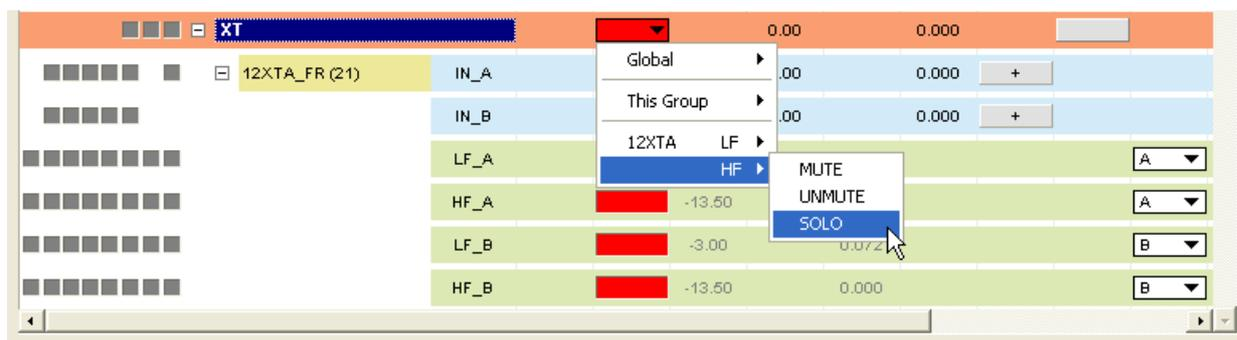
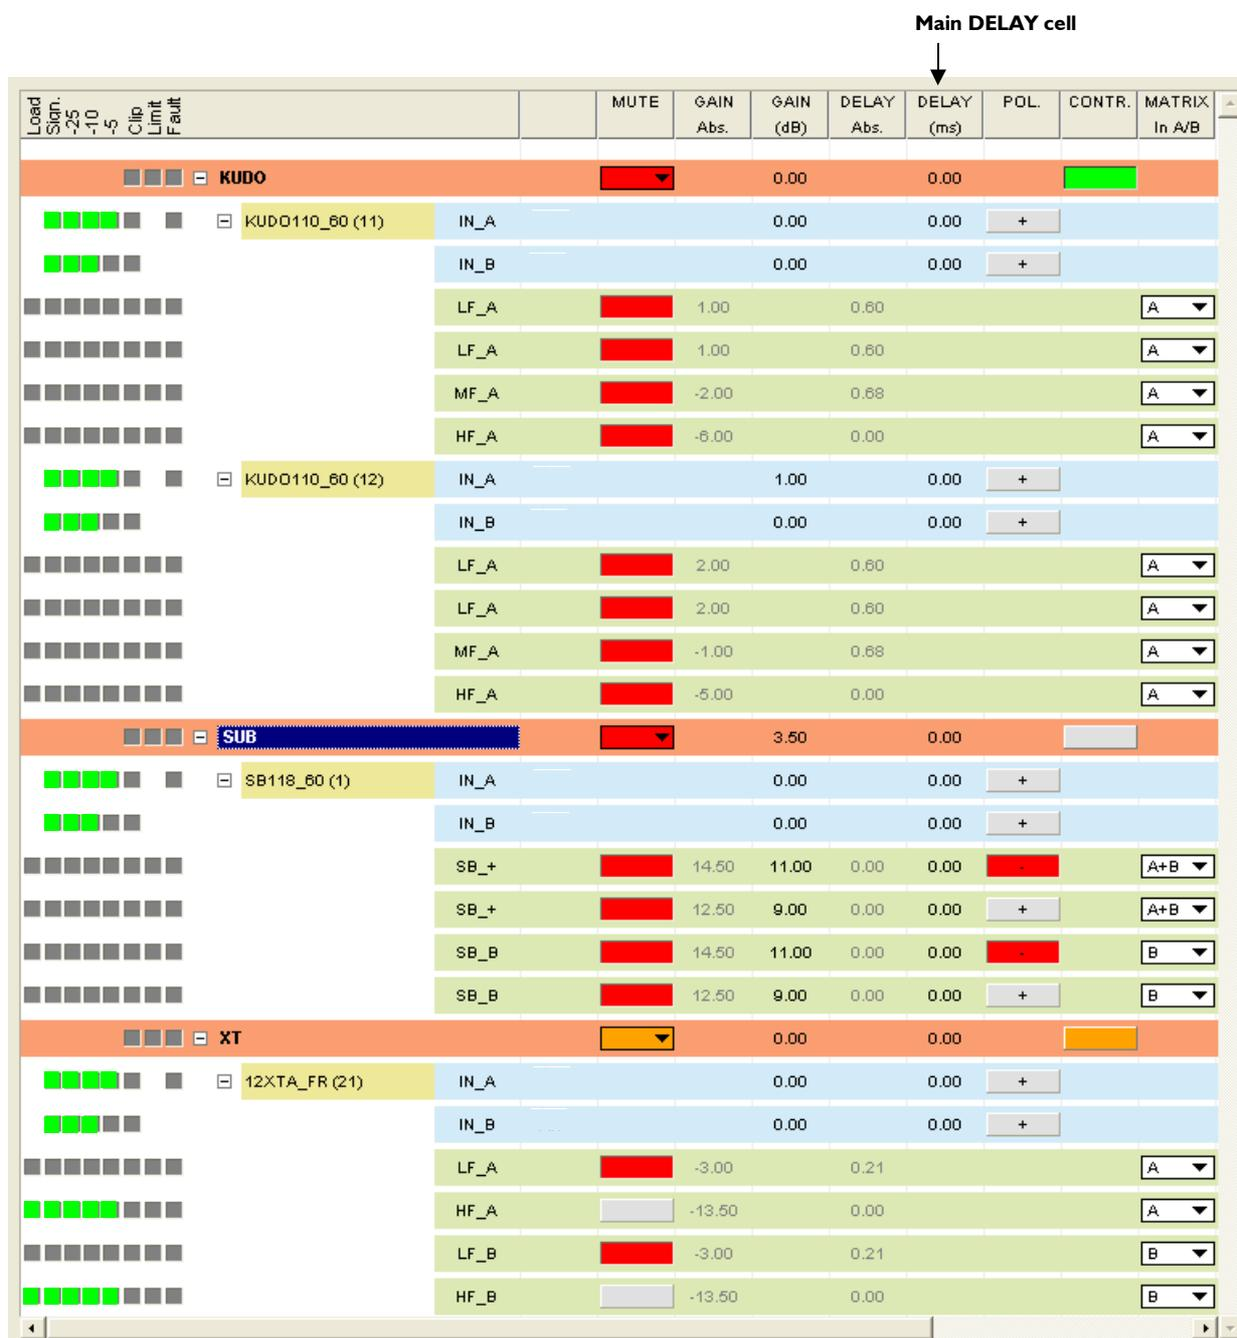

Figure 23: Selecting the 12XT HF SOLO function
Figure 24: 12XT HF SOLO function selected
**Example:** The user has selected the 12XTA HF SOLO function as shown in Figure 23 to obtain the window displayed in Figure 24. Note that both 12XTA HF\_A and HF\_B **channels** have been unmuted and both SB118 **channels** 1 and 3 have been muted. The output **LED** are lit for the unmuted **output channels** only.
**Example:** In Figure 24, all **output channel** gain values of the **SUB group** have been increased by 3.5 dB.
Delay unit and temperature can be set in the menu displayed by right-clicking on the main **DELAY** cell (see Figure 24). The temperature value is adjustable from -60 to 60 °C (from -76 to 140 °F).
**Example:** In Figure 24 the **unit** in the **XT group** has **output channels 1 and 3** muted and **output channels 2 and 4** unmuted.
**Example:** In Figure 24 the **unit** in the **SUB group** has **output channels 1 and 3** gain values increased by 11 dB. Thus, the addition of the **group** (3.5 dB) and **unit** (11 dB) gain values results in a total of 14.5 dB in the **GAIN Abs.** column.
**Delay** unit and temperature can be set in the menu displayed by right-clicking on the main **DELAY** cell (see Figure 24). The temperature value is adjustable from -60 to 60 °C (from -76 to 140 °F).
**Example:** In Figure 24 the **unit** in the **SUB group** has **output channels 1 and 3** set at 180°, and **output channels 2 and 4** set at 0°.
**Examples:** In Figure 24, the **KUDO output channels** are all driven by **input channel A**, the **I2XTA** and last two **SBI 18 output channels** are driven by **A or B**, and the first two **SBI 18 output channels** are driven by the sum of **A and B**.